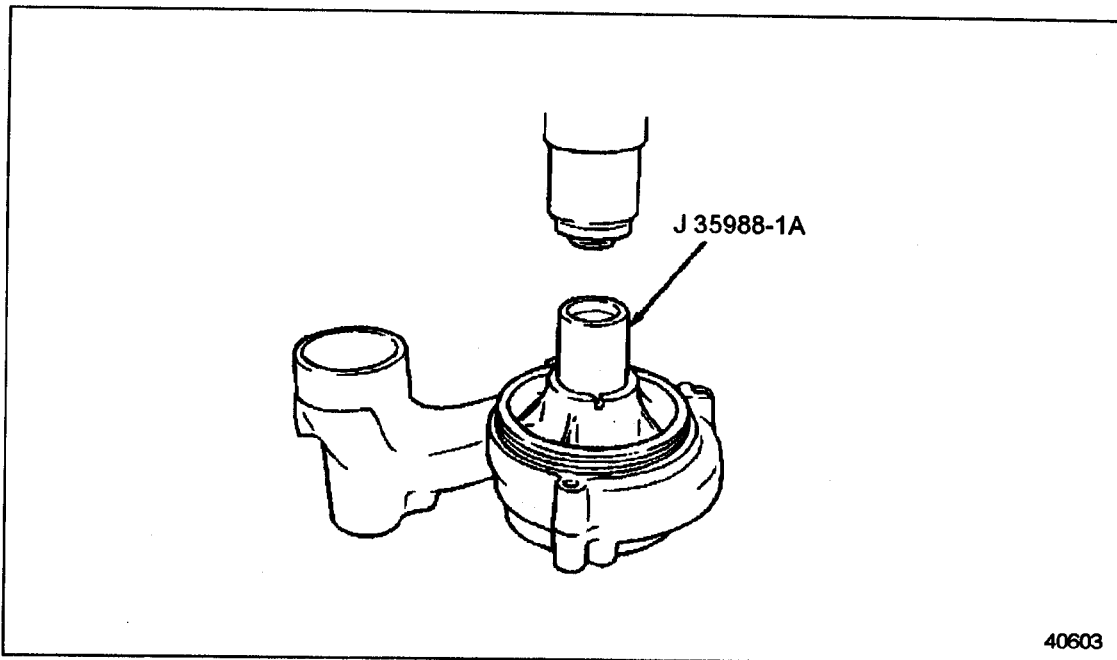

Figure 4-50 Oil Seal Installation (FM)
3. Place the small end of tool J 35988-1A, part of tool set J 35988-B, into the water pump housing until it contacts the oil seal. See Figure 4-50.